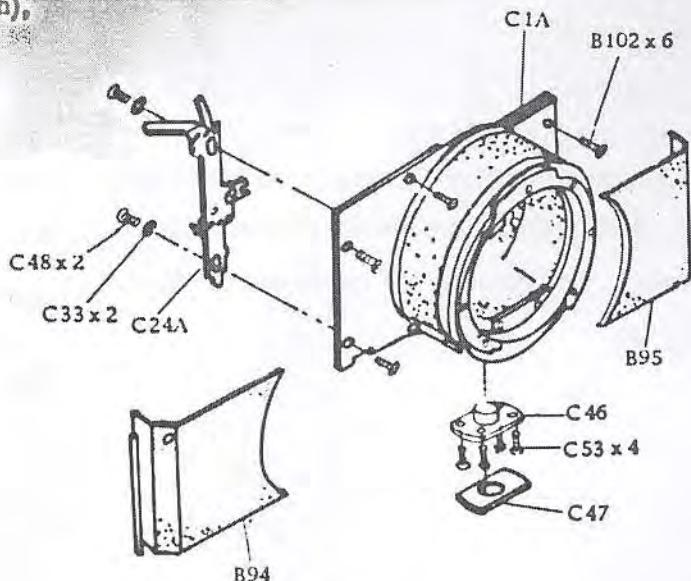

Fig. 3
- Peel off the leather cover (C47) from the tripod socket unit. Remove the screws (C53, 4 each), and remove the tripod socket (C46). (Fig. 3)
(C24A). (Fig. 3)